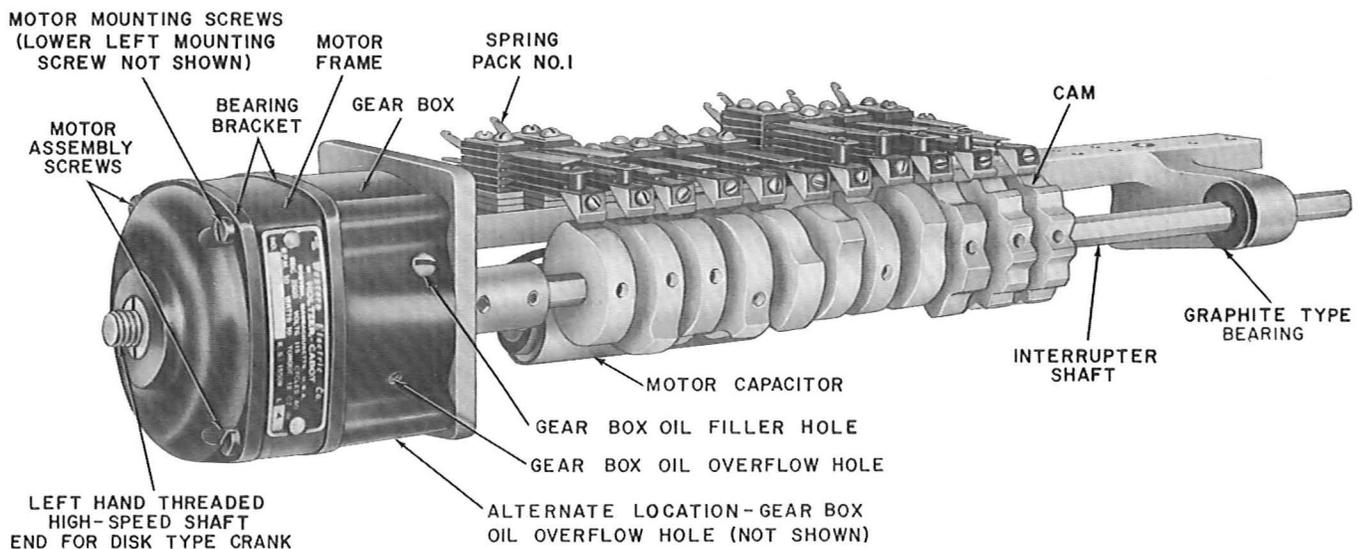
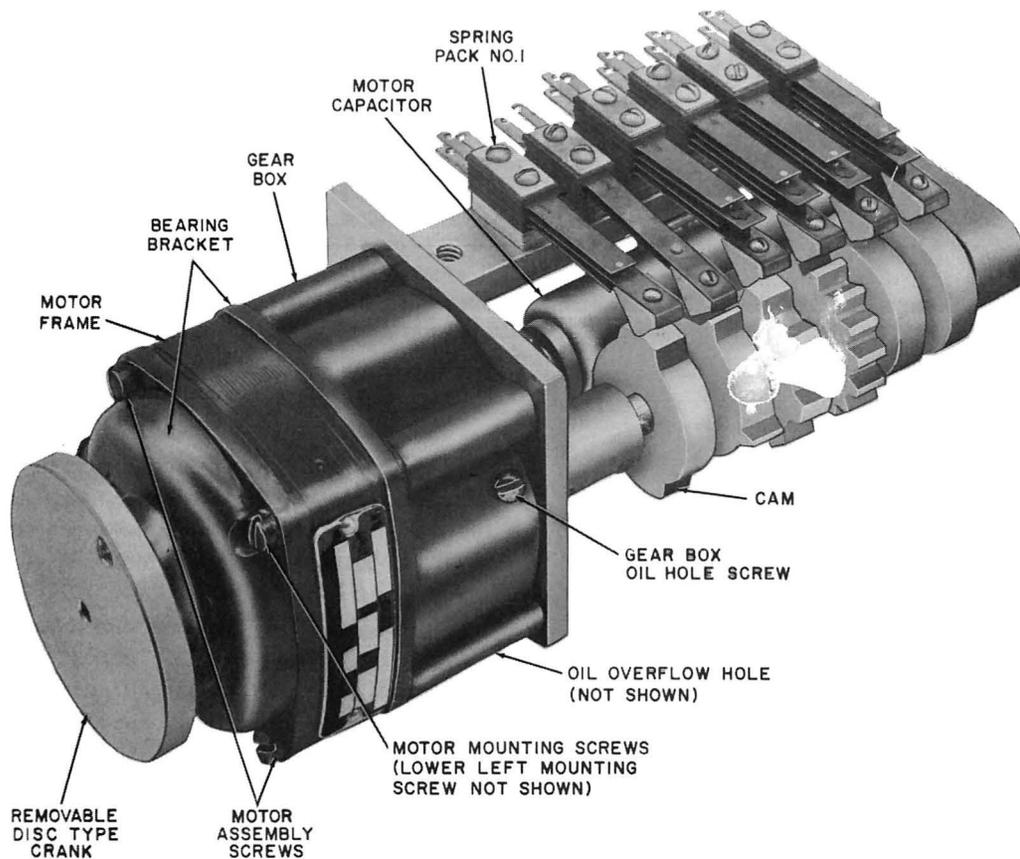

Fig. 1—KS-15634 L1 Interrupter (Holtzer-Cabot Interrupter Shown)
Fig. 2—KS-15757 L1 Interrupter (Holtzer-Cabot Interrupter Shown)
1.002 This addendum is issued to correct information shown in Fig. 1—KS-15634 L1 Interrupter (Holtzer-Cabot Interrupter Shown).
(a) Fig. 1—revised
interrupters is driven at 10 rpm and provides a 6-second ringing cycle. The shaft of the KS-15634 L3 and KS-15757 L1 is driven at 7.5 rpm and provides an 8-second ringing cycle. Fig. 1 shows the KS-15634 L1 interrupter. Fig. 2 and 3 show the KS-15757 L1 interrupter.